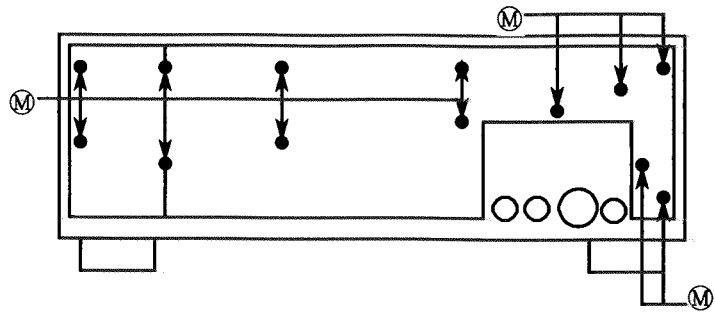

FIG.5 Front panel ass'y rear side
4. Remove 13 screws (M).(FIG.5)